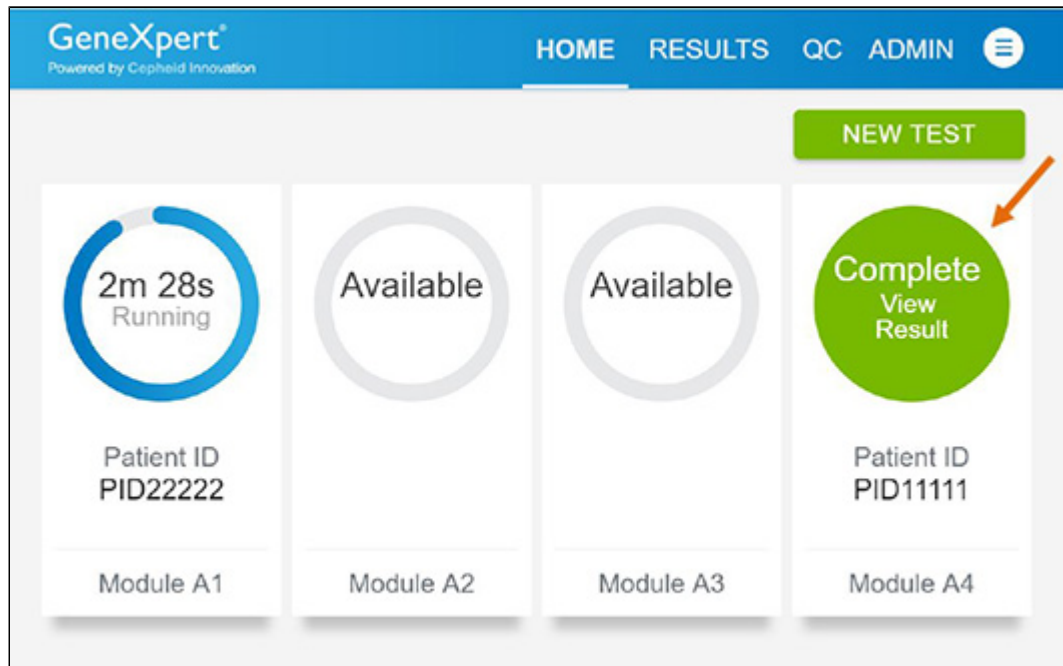

Figure 30. Home Screen with One of Two Tests Completed
- After a test has completed, the module icon text changes to **Complete** (see Figure 30). Touch **Complete View Results** to view test results.